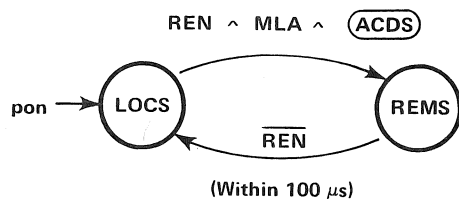

Figure 2.
**REMOTE/LOCAL.** The five GPIB devices (MF, LV, RV, AH, BH) in the box all have the same Remote/Local function. The MF has RL1 (complete) capability, and the plug-ins respond as shown in Figure 2.